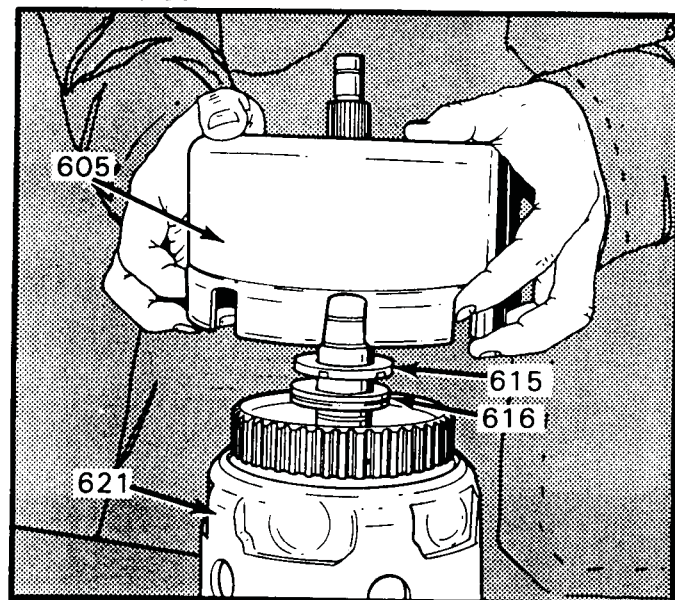

Figure 159
3. Install the reverse input housing by rotating and index the reverse input clutch plates onto the hub of the input clutch housing (See Figure 159).